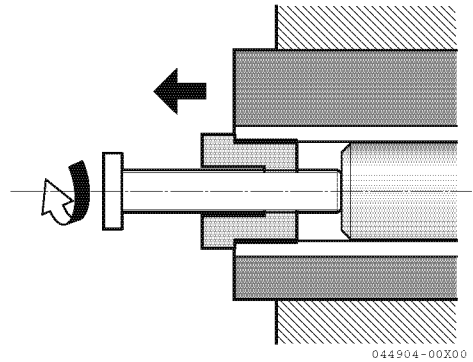

Figure 8
*Note: When replacing a used impeller with a new one, the impeller must have an M24x2 thread (**Figure 8**). Turn the M24 screw side of the impeller to the cover side and install.*